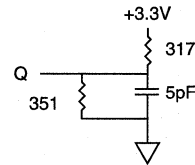

Fig. 2 OUTPUT LOAD EQUIVALENT
- t_{HZCE} , t_{HZOE} and t_{HZWE} are specified with $C_L = 5pF$ as in Fig. 2. Transition is measured $\pm 200mV$ from steady state voltage.